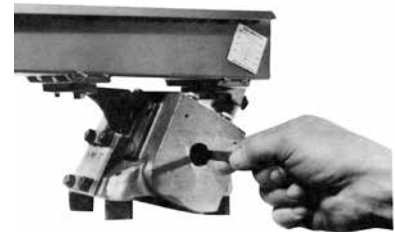

FIGURE 9
6. A. Remove the cover nameplate from the left side of the body casting (see Figure 9).